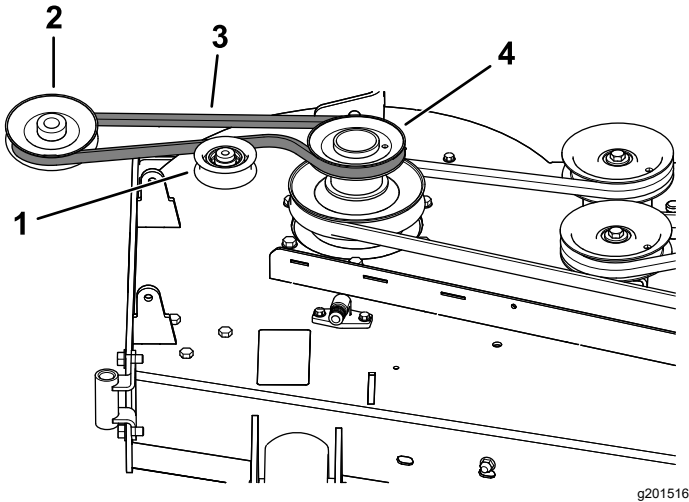
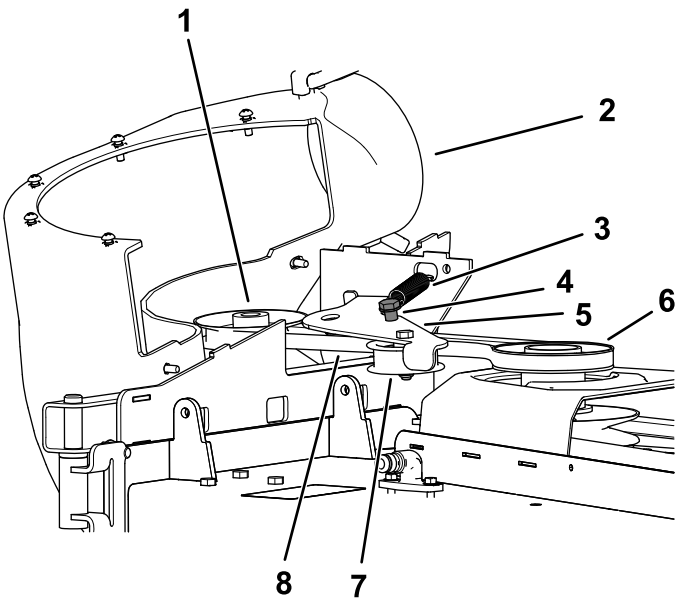

Figure 25
Figure 26
1. If necessary, install the belt onto the blower pulley (Figure 25).
1. Install the belt around the blower pulley (Figure 25 and Figure 26); refer to 11 Installing the Blower Assembly (page 16).
3. Pull the spring loaded idler pulley away from the fixed spring post, and route the belt around the mower deck pulley (Figure 26).
4. Route the belt around the drive pulley as illustrated in Figure 25 and Figure 26.